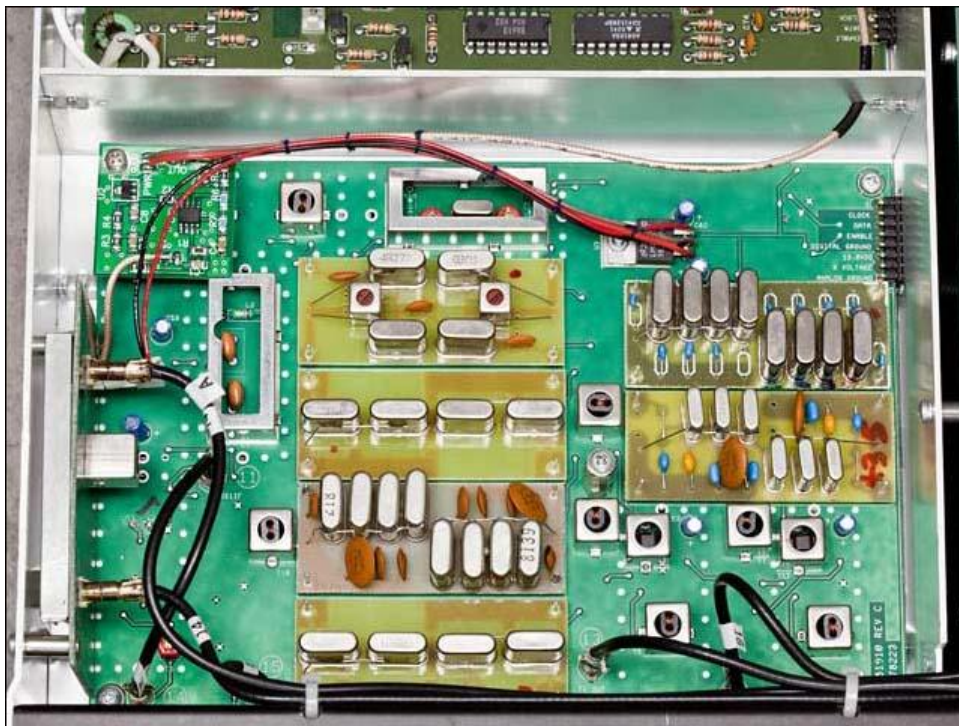

Figure 8: Modified 9 MHz IF board with Z10000 Buffer at upper left
13. Mount the Z10000 buffer with a 1 inch metal stand-off and appropriate longer 4-40 screw in the upper left corner of the 9 MHz IF enclosure (Figure 8 below).
15. The RG-178 coax from R95 or the output of the Z10000 buffer, if installed, was fed through an **existing hole** between the IF board and the Low Pass Filter board (see Figures 8 & 9 above). The cable was run through existing zap straps on the left of the chassis and along the rear of the rig to the **SPARE** connector jack.
14. The RG-178 coax from R26 or the output of the Z10000 buffer, if installed, was fed through an **existing hole** between the IF board and the Low Pass Filter board (see Figures 8 & 9 above). The cable was run through existing zap straps on the left of the chassis and along the rear of the rig to the **SPARE** connector jack. The buffer output is the small brown RG-178 cable coming in from above the **Band Data 1** jack.)